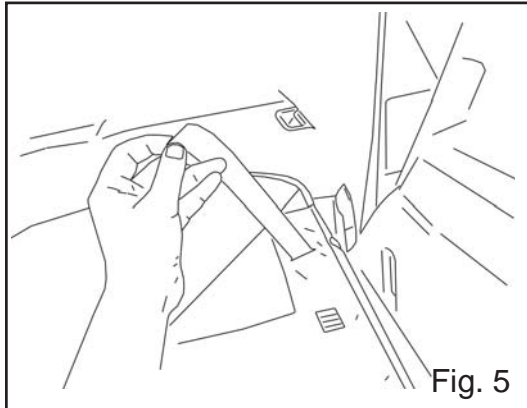

Fig. 5
- 5 Pull the seat tilt straps through the slots on the cover. (Fig. 5)